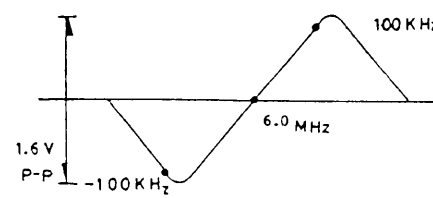

Fig 4.
- 6: Adjust T102 to obtain waveform as fig 4.